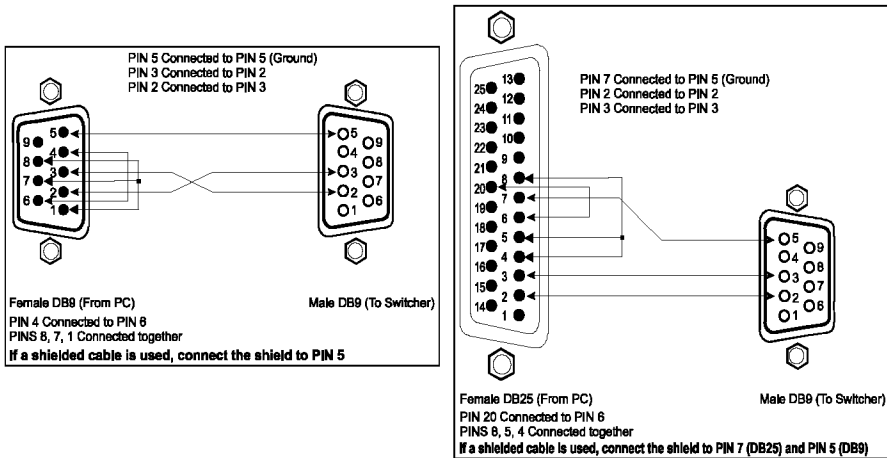

Figure 4: Connecting a PC without using a Null-modem Adapter
- Connect the RS-232 DB9 port on your PC to the RS-232 DB9 rear panel port on the Master **VS-808YC** unit, as Figure 4 illustrates (depending on whether the PC has a 9-pin or 25-pin connector)